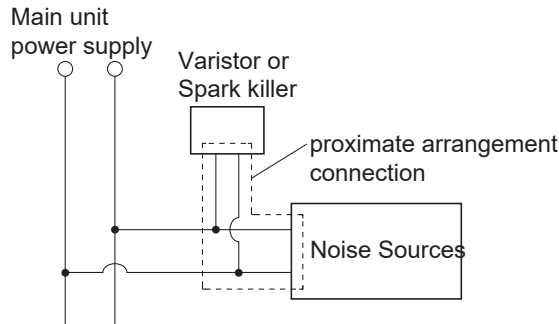

Figure 3.7
- If noise is present in a relay, solenoid valve, etc. from the power supply, attach a varistor or spark killer to the noise source as shown in Figure 3.7. Note that placing the varistor or spark killer apart from the noise source will have no effect.